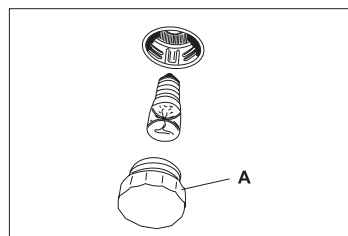

Fig. 4
2. After the oven has cooled down, unscrew (anticlockwise) the lamp cover **A** (Fig. 4).